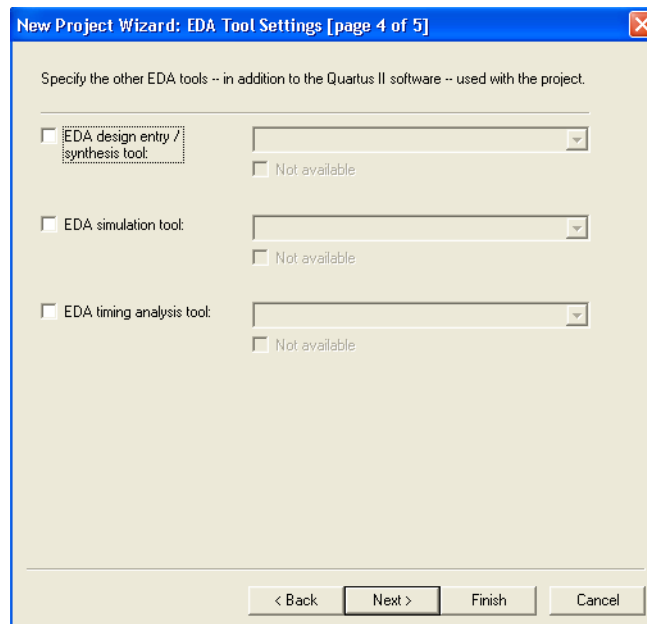

Figure 8: Other EDA tools can be specified.
- In this window, we can specify the type of device in which the designed circuit will be implemented. Choose the Stratix® menu item as the target device family. We can let the Quartus II software select a specific device in the family, or we can choose the device explicitly. We will take the latter approach. From the list of available devices, choose the device called EP1S10F484C5. Press Next, which opens the window in Figure 8.